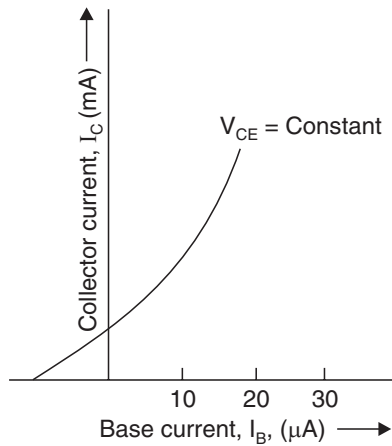

Fig. 46
- Fig. 46 shows the graph of collector current (I_C) with base current (I_B) at constant collector-emitter voltage. It may be noted from the curve that there is a collector current even when the basic current is zero. This is known as *collector leakage current* :